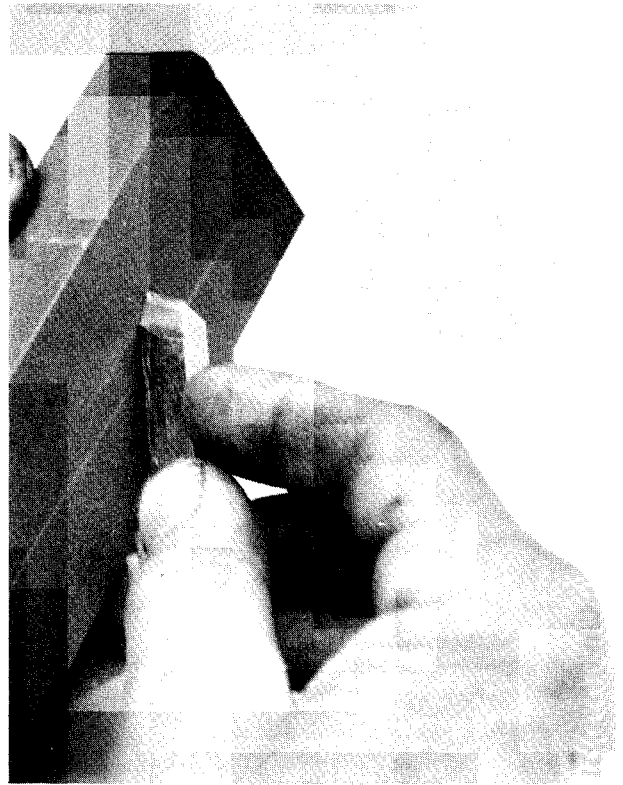

FIGURE 9.54 When honing the toolbit, hold it firmly against the oilstone.
8. Hone the cutting edge slightly with a whetstone or oilstone to prolong the life of the toolbit and improve surface finish. Be sure and hold the toolbit firmly against the stone to avoid changing the angles or inadvertently rounding the cutting edge (Fig. 9.54).